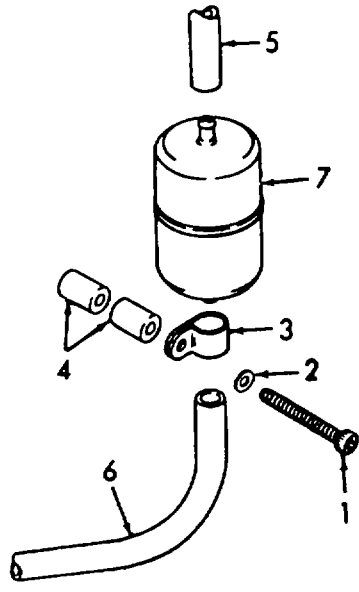

Figure 4-4. Fuel Filter Removal/Installation.
a. Removal. (Refer to figure 4-4).
(1) Remove screw (1), flat washer (2), clamp (3), and two spacers (4).